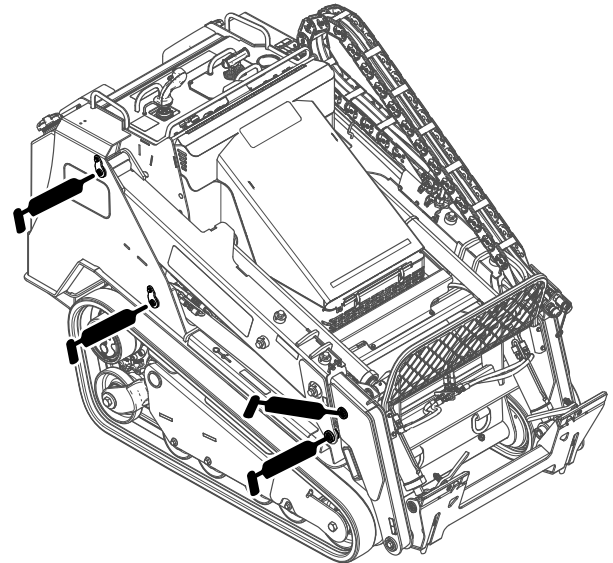
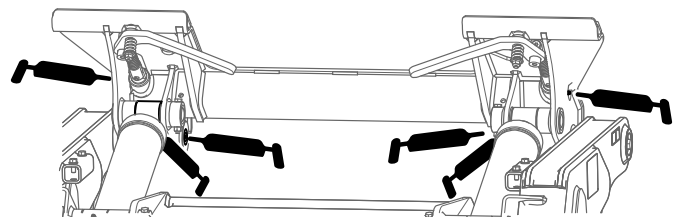
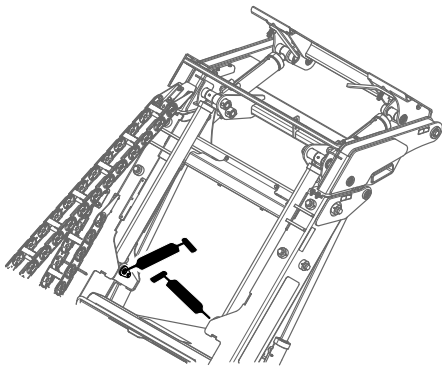

Figure 44
Figure 45
Figure 46
4. Connect a grease gun to each fitting (Figure 44, Figure 45, and Figure 46).
Note: Raise the loader arms before greasing the fittings in Figure 46.